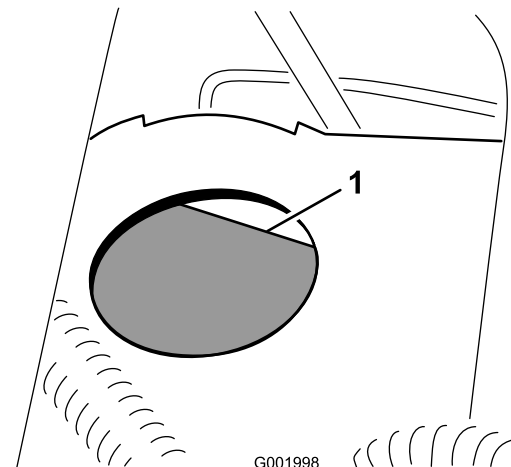

Figure 63
- The fluid level should be up to the Full line on the reservoir (Figure 63).